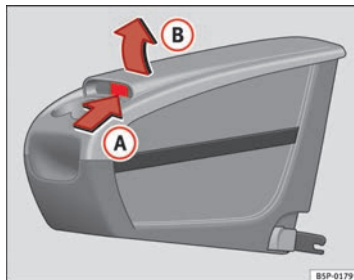

Fig. 113 Mobile storage compartment. Opening
- Lift the cover (B), in area (A) ⇒ Fig. 113.